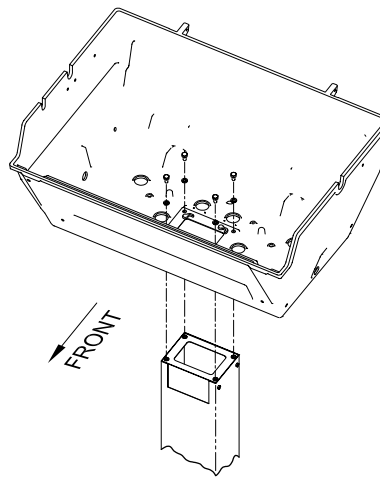

Figure 7
7. Position the grill head onto the post and fasten with 1/4-20 x 3/4 Hex Head Screws and 1/4 x 5/8 Flat Washers. See Figure 7.